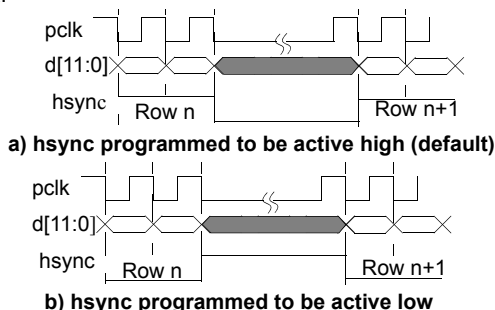

Figure 41. *hsync* in Level Mode
- Level mode should be used when the pixel clock, *pclk*, is programmed to operate in *free running mode*. In level mode the *hsync* output pin will go to the specified level (high or low) at the start of each row and remain at that level until the last pixel of that row is read out on *d[11:0]* as shown in Figure 41. The *hsync* level is always synchronized to the active edge of *pclk*.